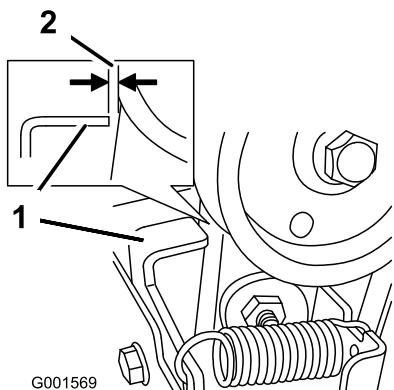

Figure 48
- With the auger/impeller lever disengaged, ensure that the gap between the auger clutch assembly and the tab is $1/16$ inch (1.5 mm) (Figure 48).